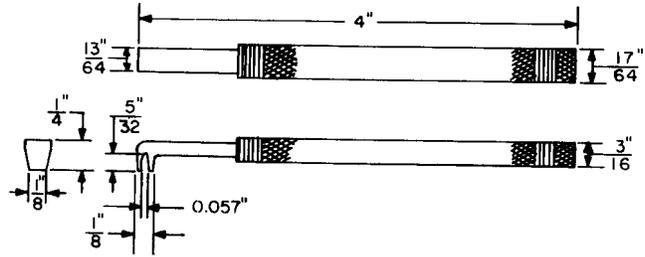

Fig. 6—371 Adjuster Tool
2.06 **371:** The 371 tool (Fig. 6) is a general purpose spring adjuster. The 371 tool replaces the 98 tool and the R-69710 spring adjuster.